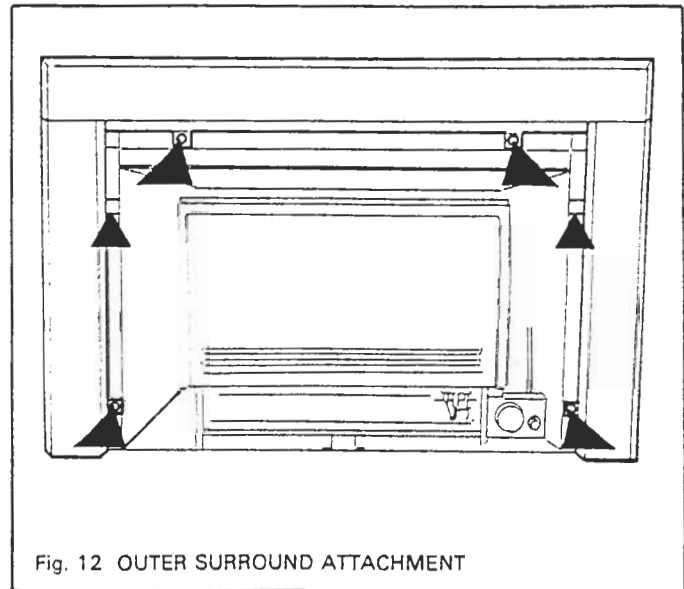

Fig. 12 OUTER SURROUND ATTACHMENT
2.2.4.2 Place the assembled outer surround in position against the heater. Secure to the heater front flanges with screws through the two brackets on the top cross piece and through two holes on the inner flanges of each of the surround sides (see fig. 12).